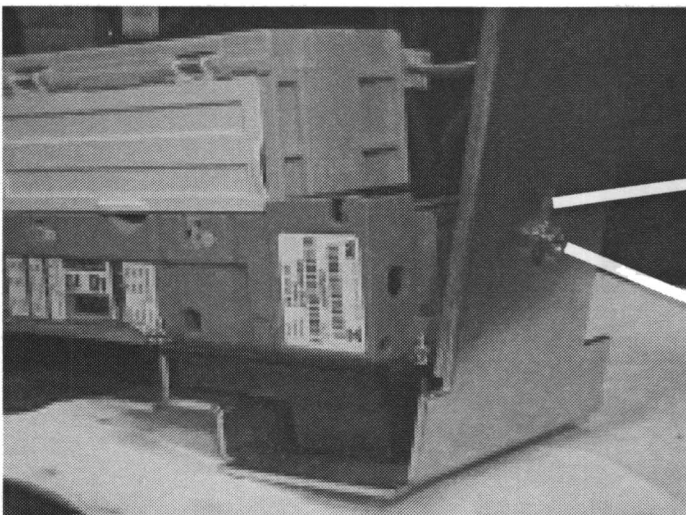

Figure 10
- C. The slider bracket included with the kit is adjustable using the slot located on the top of the bracket. Insert the carriage bolt included so that it is coming up from underneath the bracket and attach the hex nut to hold it in place (Figure 10).